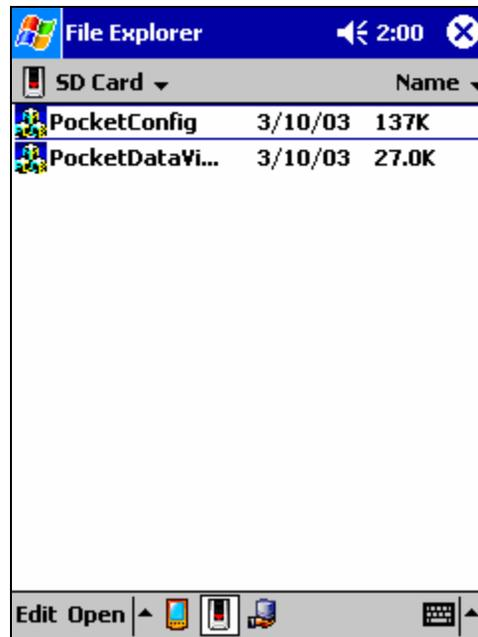

Figure 6. WEMS Software Programs on the SD Card.
- 3) Access the files on the SD Card. The SD Card will contain two programs as shown in Figure 6 below.